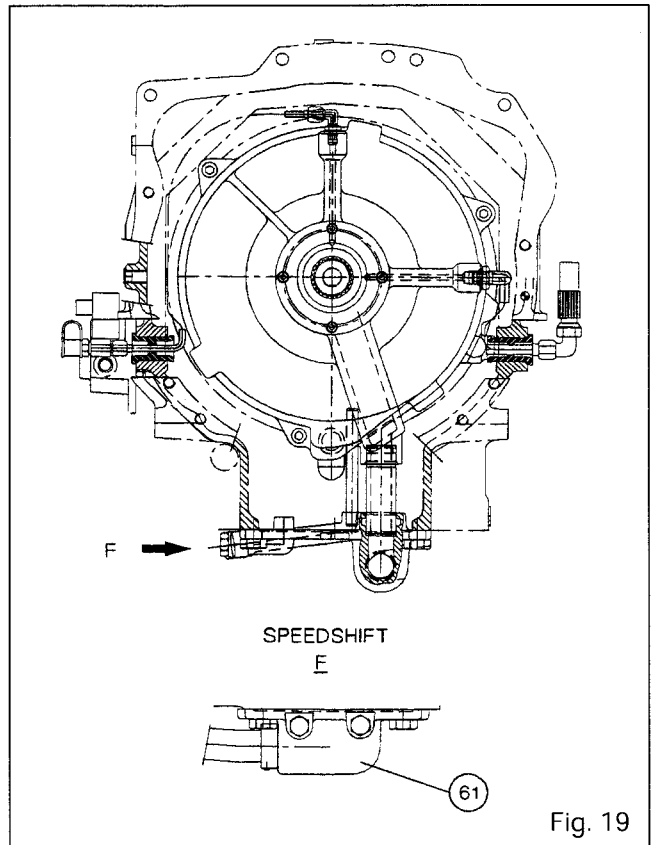

Fig. 19
- Tighten the screws (77) to 25 - 35 Nm.
- Cover (61), Speedshift version (Fig. 19)